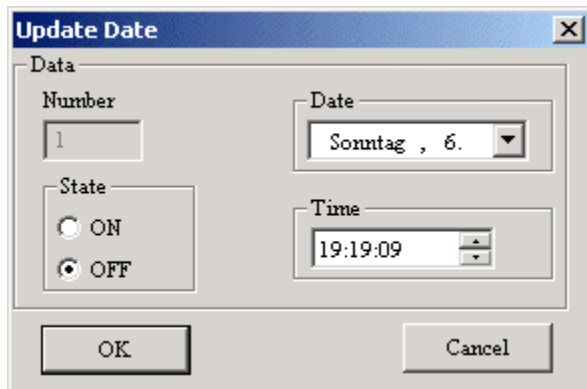

Fig.6.11
**Add:** To add a time, please click the *<Add>* button and a dialogue box will appear, as shown in Fig. 6.11.
It should be pointed out that Quick II provides you with the best date setting method. You will have a permanent calendar chart appear, as shown in Fig. 6.11, only by clicking once the Page Down arrow on the right of the Date Box. You may select whatever date you want to set on this permanent calendar and click *<OK>* to complete setting of the date. Therefore Comat BoxX can realise real-time control without any limitation.
**Insert:** To insert a time in the existing time setup combination please put the cursor on the said time, click the *<Insert>* button and a dialogue box will appear, as shown in Fig. 6.11.
**Update:** To update a time, put the cursor on the said time record and click the *<Update>* button. As a time setting frame, similar to that shown in Fig. 6.11, appears; reset the state, date and time, then click *<OK>* and the said time record is updated.